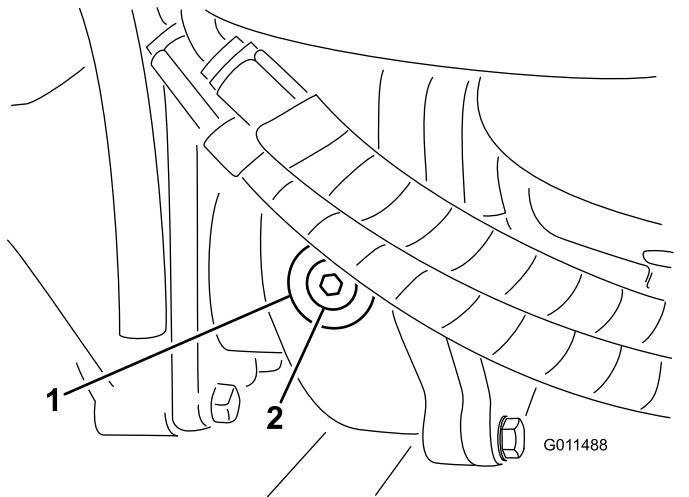

Figure 59
2. Remove the check/fill plug from the left side of the gear box and ensure that lubricant is up to the bottom of the hole (Figure 59).